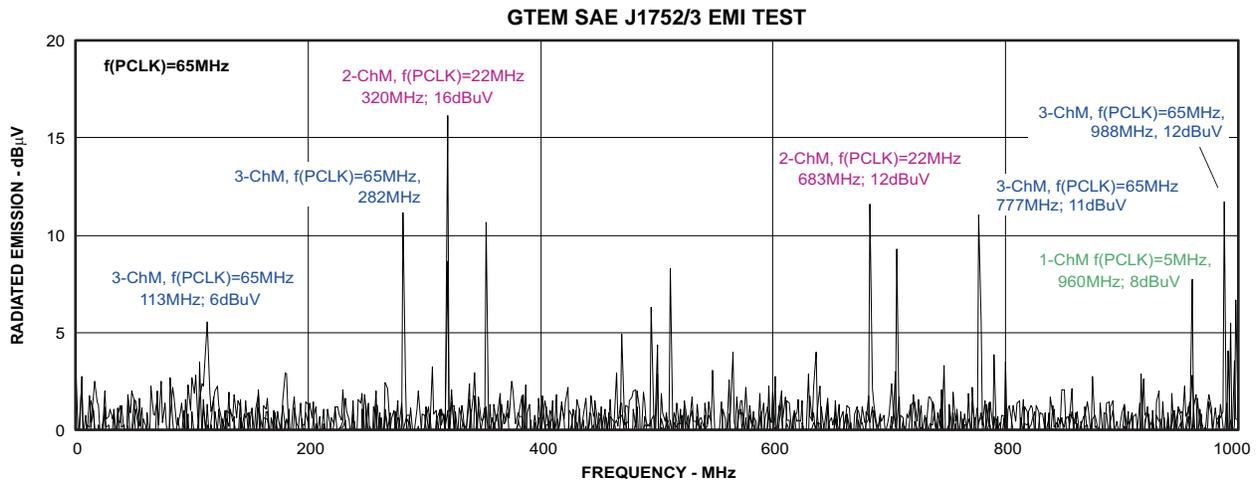

Figure 35.
- A. Figure 35 shows a superimposed image of three EMI measurements with the device operating at  $f(\text{PCLK}) = 5\text{MHz}$ ,  $f(\text{PCLK}) = 22\text{MHz}$ , and  $f(\text{PCLK}) = 65\text{MHz}$ . This excellent EMI performance meets the system requirements of dense, mobile designs with a noise floor of  $\sim 2\text{ dB}\mu\text{V}$  ( $\sim 105\text{ dBm}$ ) and all spurs being smaller than  $16\text{ dB}\mu\text{V}$  ( $\sim 101\text{ dBm}$ ). The test was performed in compliance with the SAE J1752/3 EMI test guidelines.